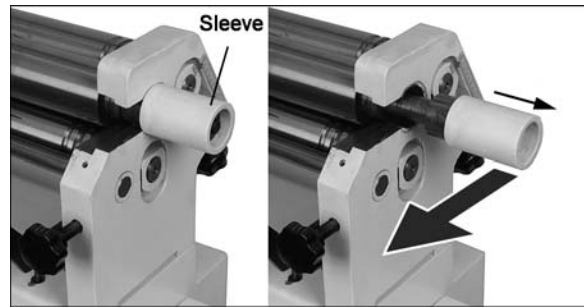

Figure 8
3. To remove the tube from the stationary roll, pull the sleeve outward until it clears the end bracket; then pivot the roll outward, as shown in Figure 8.
4. After the tube is removed, reposition the stationary roll, making sure the sleeve is pushed back in completely, as shown in Figure 8.
3. Apply a light coat of oil to the exposed end of the stationary roll beneath the sleeve (shown in Figure 8).